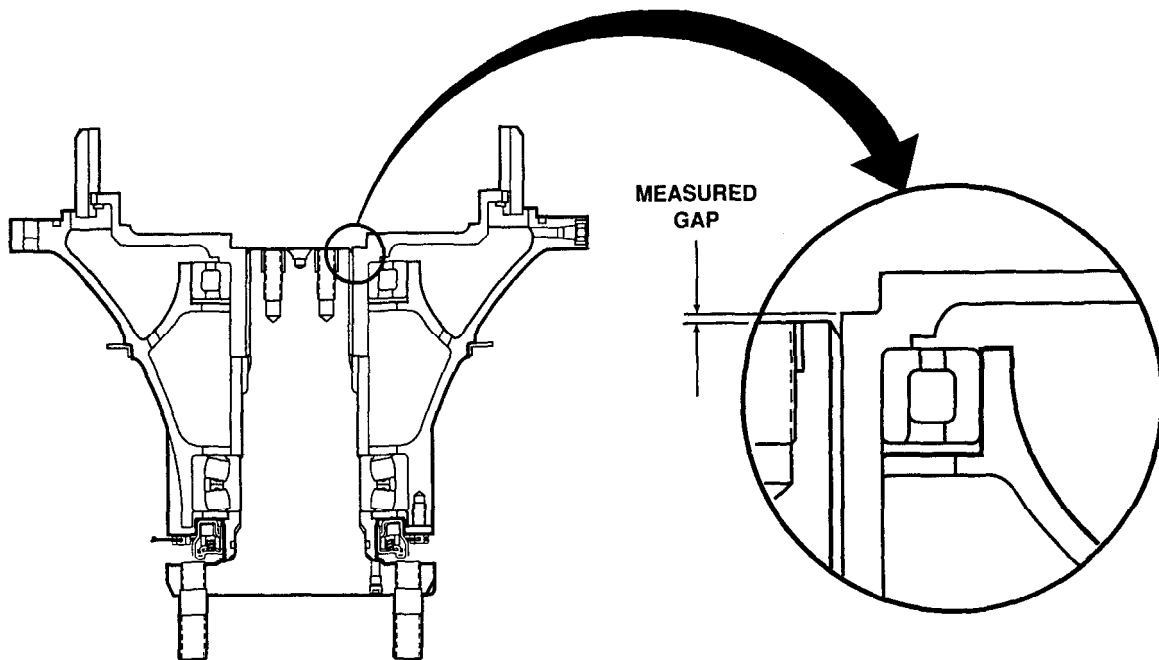

Figure 358.1 (Step 3.2)
Remove the four 5/8-18 x 2-1/2 bolts (C) and lock plate (A). Measure the gap shown in Figure 358.1